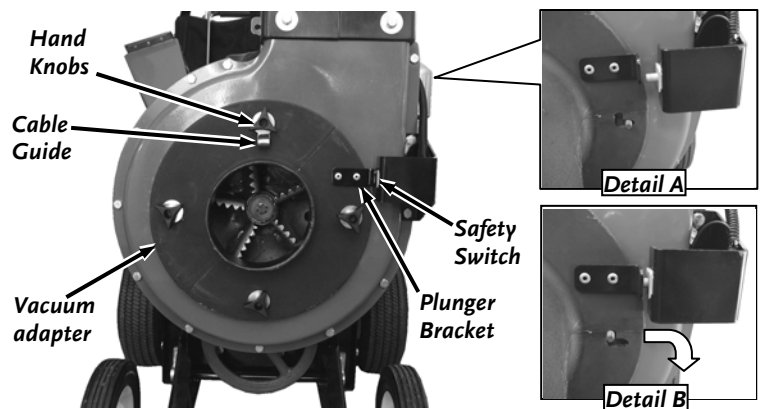

Figure 32
- Place the Vacuum Adapter onto the front of the Housing (**Figure 32**) so the studs are located in the right hand side of the lower slots (**Detail A**). Slide the Adapter to the right and down so the Plunger Bracket on the Adapter pushes the Safety Switch in (**Detail B**).